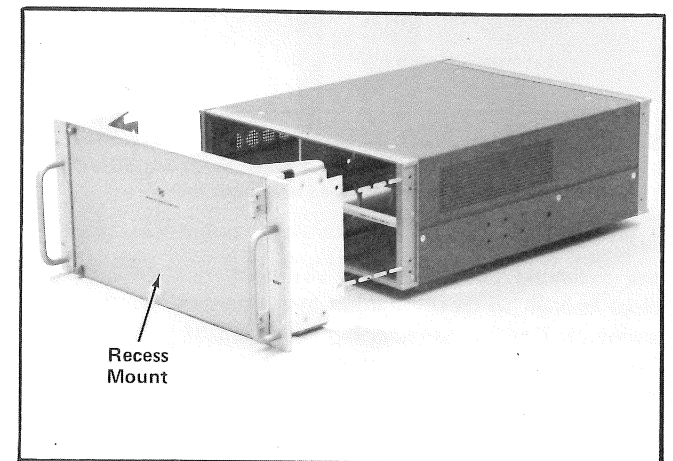

Fig. 2-7. Installation of Recess Mount Kit.
- Slip the front panel extension onto the front of the instrument so that the sides of the extension are in the same position that the angle brackets were before being removed in part 1. (See Fig. 2-7.)